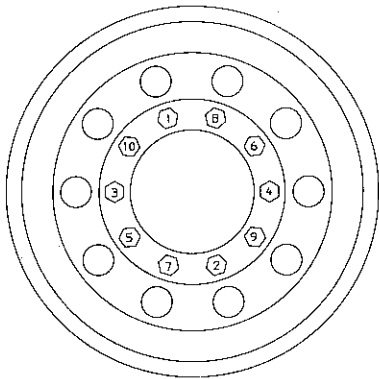

Figure 8-2. Lug Nut Tightening Pattern
12. Install spare and replace lug nuts. Tighten progressively in the sequence shown in figure 8-2 starting with # 1 and proceeding to # 10. Final torque will be 450 to 500 foot-pounds.
3. Remove outer lug nuts from the (5) studs which have lock rings and slide hub cover over remaining lug nuts.
4. Remove the (5) remaining lug nuts and wheel.
6. Install replacement wheel and inner lug nuts. Tighten progressively in the sequence shown in figure 8-2 starting with # 1 and proceeding to #10. Final torque should be between 450 and 500 foot pounds.